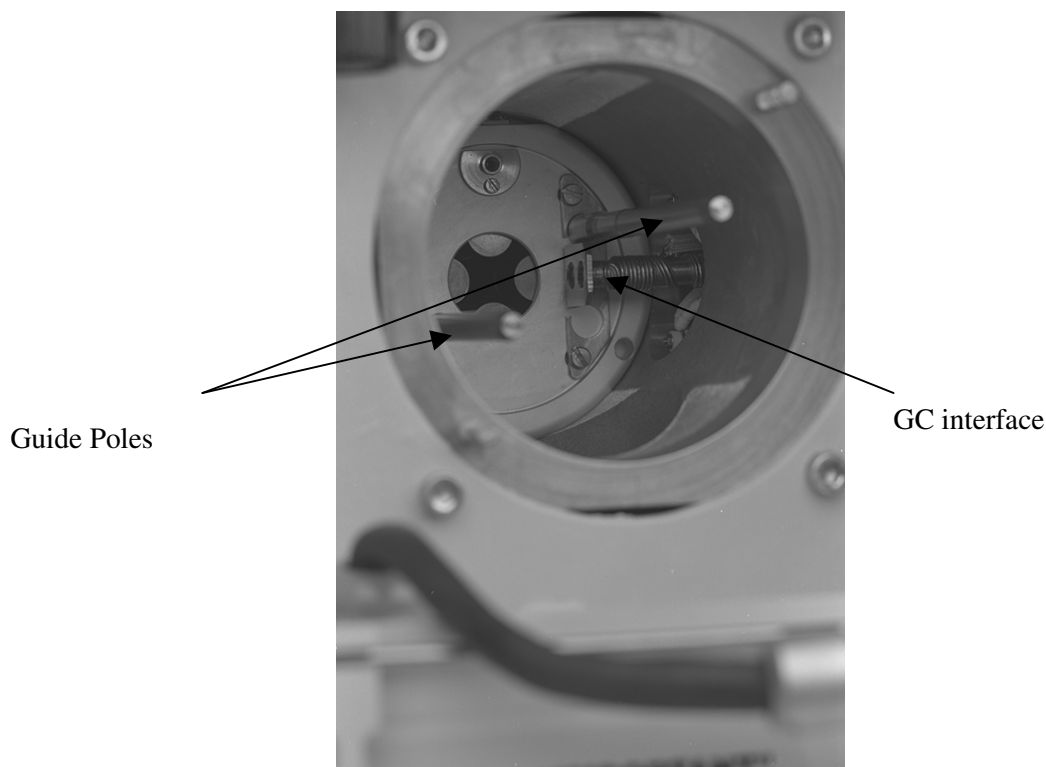

Figure 3-4. Vacuum chamber - showing guide poles and GC interface inner tube withdrawn
3. Introduce the source into the vacuum chamber so that the two guide poles slide into the source arms (see Figure 3-4).